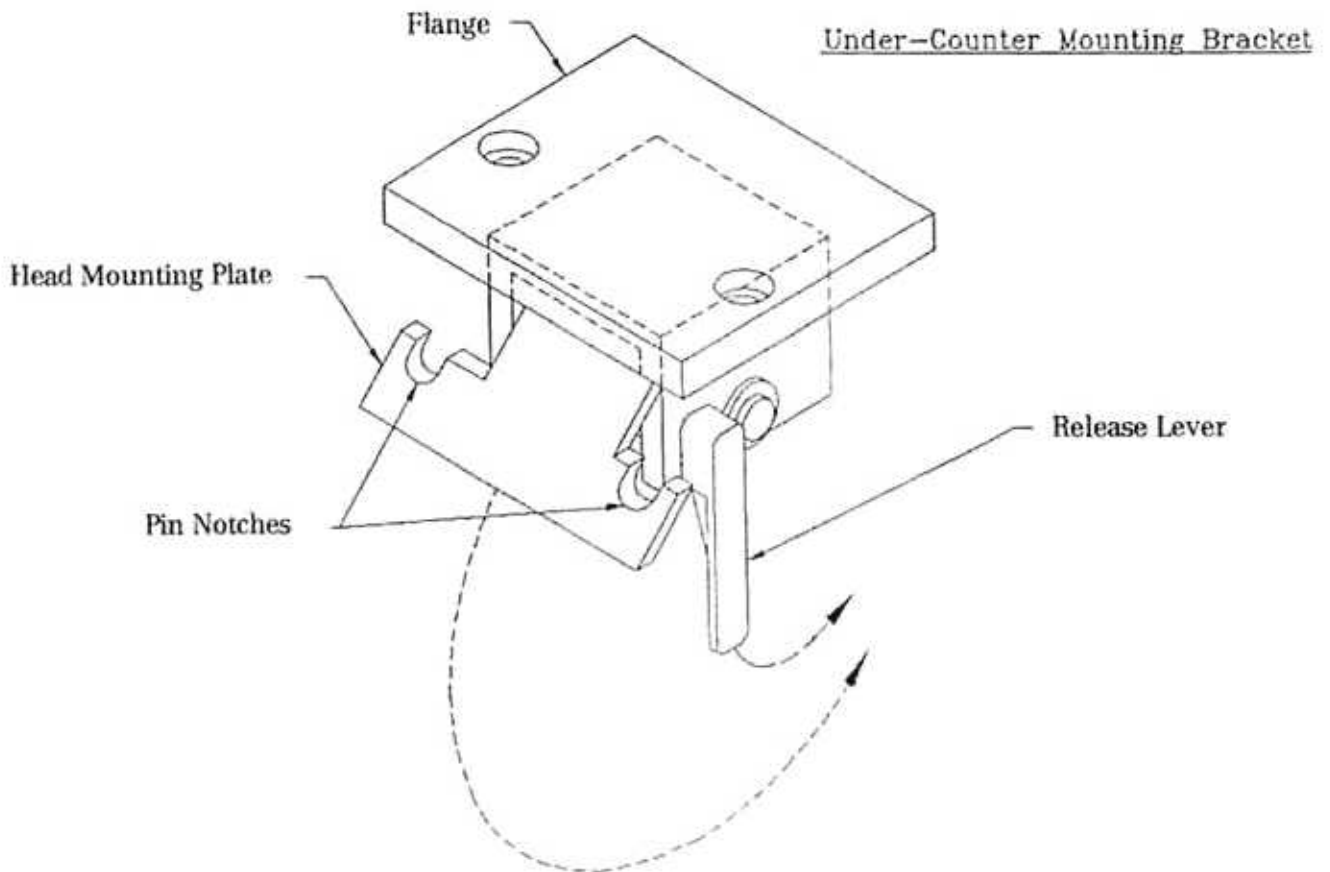

Figure 9
C. Once the under counter mounting bracket is mounted, check its operation as follows (see fig 9):